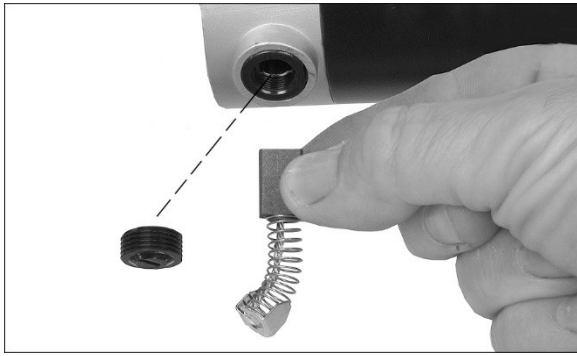

Figure 29
- Unscrew cap (Figure 29) using a screwdriver or coin, and withdraw brush.